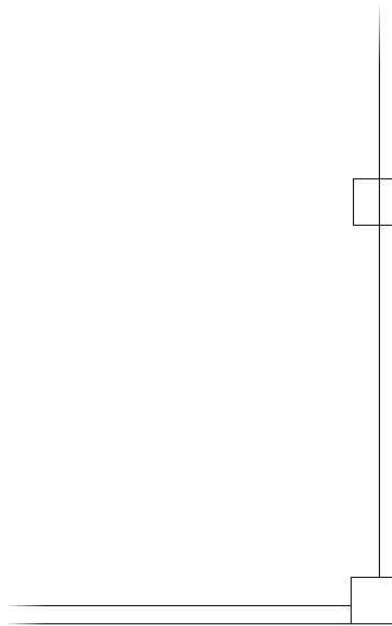

FIGURE 5.18: The copied deck post
4. Press \downarrow to end the COPY command. The copied post appears as shown in Figure 5.18.